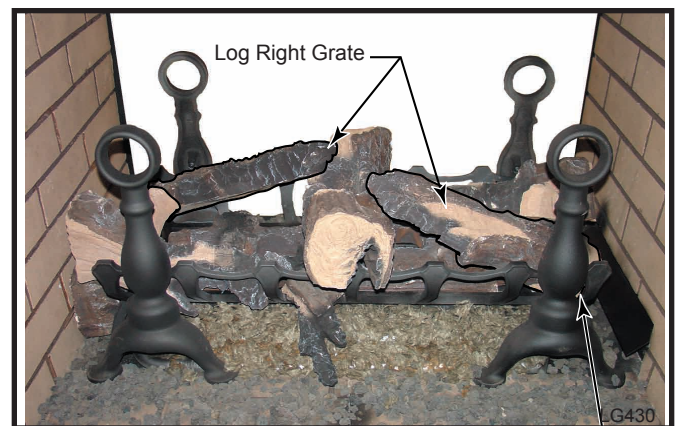

Fig. 50 Position log right grate.
10. Position the log right grate. (Fig. 50) Hold the log with your right hand with the pointed end toward the left and the flat surface facing down. Hook the notch located on the right corner of the log through the first opening on the right hand side of the fettle using the first tine. Bring the log toward you until it comes in contact with the fettle. Then rest the pointed end over the middle log positioned in Step 9. Repeat this step for opposite side.